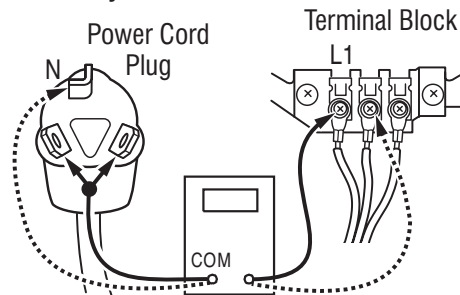

Figure 13a - Plug-to-terminal connections for electric dryer.
3. With an ohmmeter, check for continuity between the neutral (N) terminal of the plug and the center contact on the terminal block. See figure 13a.
4. In a similar way, check which terminal of the plug is connected to the left-most contact on the terminal block and make a note of it. This will be L1 (black wire) in the wiring diagram. See figure 13a.